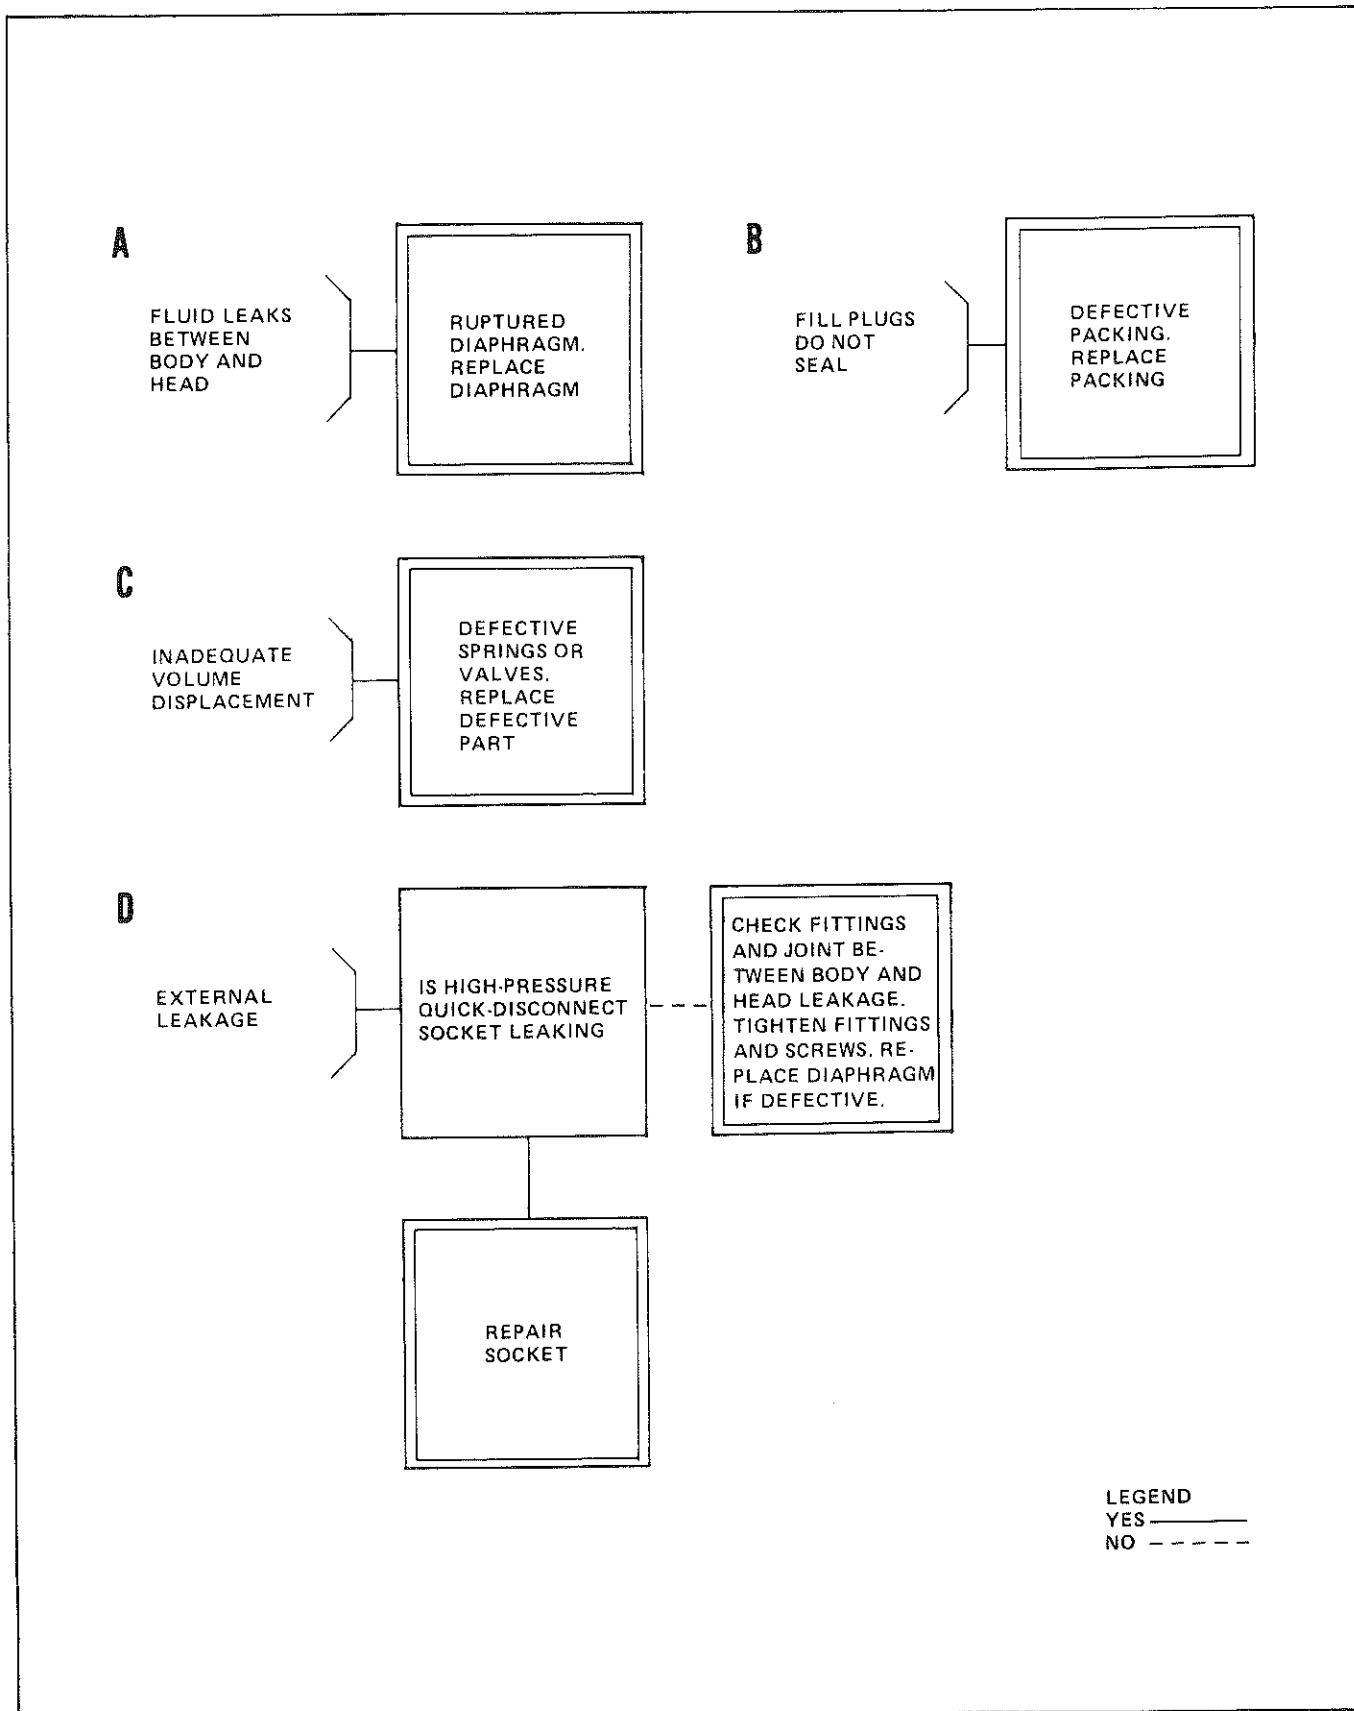

Figure 5-2. Fluid Separator Fault Logic Diagram
Fluid leaks between body and head on fluid separator.	Figure 5-2 (A)
Inadequate volume displacement with fluid separator.	Figure 5-2 (B)
External leakage on fluid separator.	Figure 5-2 (C)